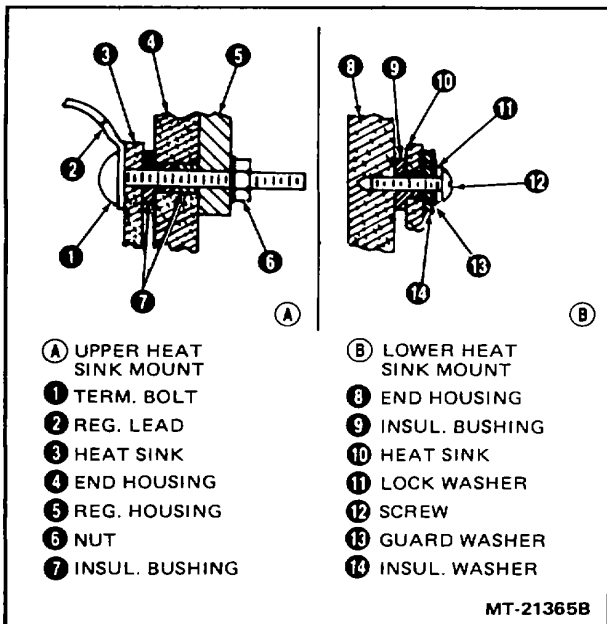

Figure 10 - Heat Sink Mountings.
12. Remove two screws, lockwashers, guardwashers and insulating washers which retain lower end of heat sinks. Remove heat sinks. Note location of insulating washers and bushings (See Figure 10).
2. Reinstall heat sinks in slip ring end housing. Be sure that upper and lower insulating washers are in their proper location. Install but do not tighten lower heat sink retaining screws, lockwashers, guardwashers and insulating washers (See Figure 10). Replacement heat sinks may differ in thickness or appearance from the original assemblies, but will fit and function interchangeably.